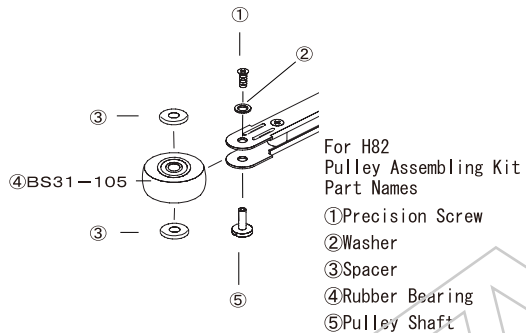

Fig. 12
Finally, insert the pulley shaft from the bottom and tighten the screw ① with the washer ②. (Fig. 12)